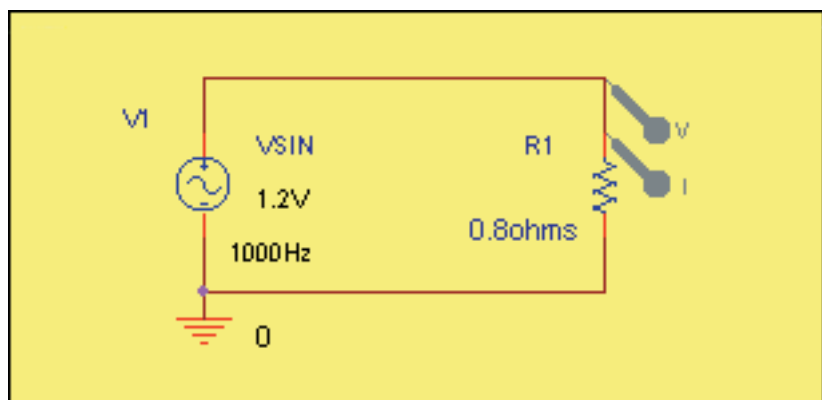

FIGURE 17–29 Using PSpice to investigate instantaneous power in an ac circuit.
The time-varying relationships between voltage, current and power described earlier in this chapter can be investigated easily using PSpice. To illustrate, consider the circuit of Figure 17–3 with $v = 1.2 \sin \omega t$, $R = 0.8 \Omega$ and $f = 1000$ Hz. Create the circuit on the screen, including voltage and current markers as in Figure 17–29, then set VSIN parameters to VOFF = **0V**, VAMPL = **1.2V** and FREQ = **1000Hz** as you did in Chapter 16. Click the New Simulation Profile, type **fig17-29** for a name, choose Transient, set TSTOP to **1ms**, then click OK. Run the simulation and the voltage and current waveforms of Figure 17–30 should appear. To plot power (i.e., the product of vi), click Trace, then Add Trace, and when the dialog box opens, use the asterisk to create the product
2. If you want to include the identification VSIN, 1000Hz, etc. on your schematic as in Figure 17–29, do it from the Property Editor as described in Chapter 16.
$V(R1:1)*I(R1)$, then click OK. The blue power curve should now appear. Compare to Figure 17–3. Note that all curves agree exactly.
1. Note that the power curve of Figure 17–4 is sometimes positive and sometimes negative. What is the significance of this? Between $t = T/4$ and $t = T/2$, what is the direction of power flow?
3. A pair of electric heating elements is shown in Figure 17–31.
4. For the circuit of Figure 17–32, determine the active and reactive power to the inductor.
5. If the inductor of Figure 17–32 is replaced by a $40\text{-}\mu\text{F}$ capacitor and source frequency is 60 Hz, what is Q_C ?
6. Find R and X_L for Figure 17–33.